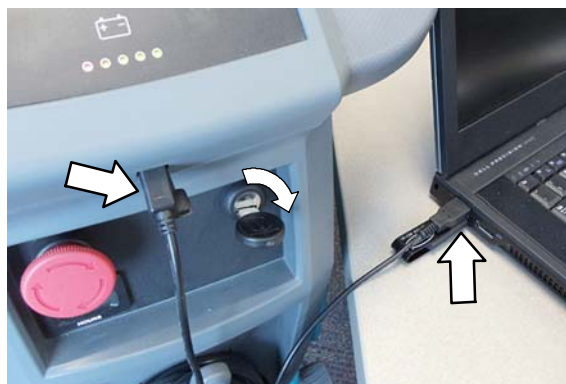

Fig. 40
2. Connect the USB cable to computer and to the USB port on machine as shown. Turn the key switch to the on position (Figure 40).